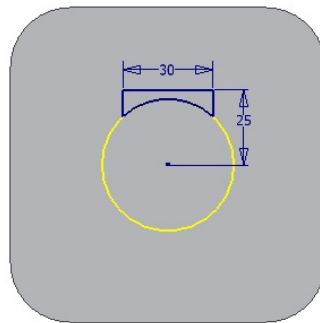

Figure 7-67 Sketch of the first rectangular feature
3. Define a new sketch plane on the front face of the cylindrical feature and create the sketch of the first rectangular feature, as shown in Figure 7-67. Exit the sketching environment.